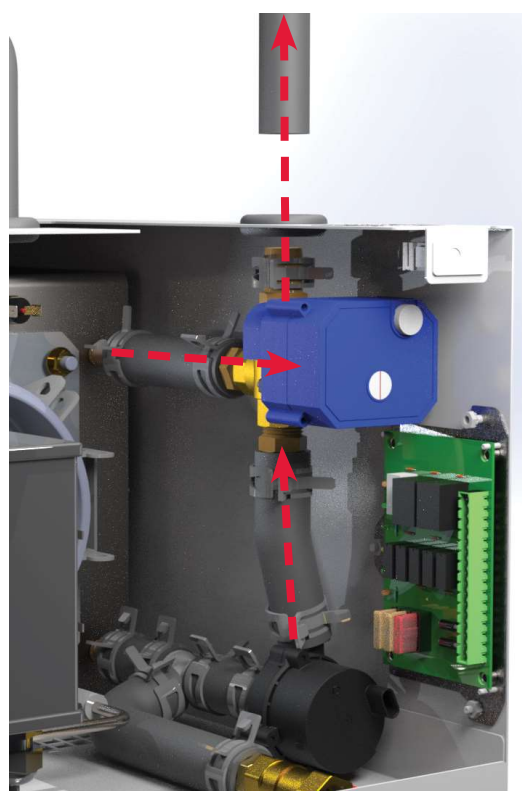

Figure 31
5. Remove the hose from the defective valve as shown in Figure 31.